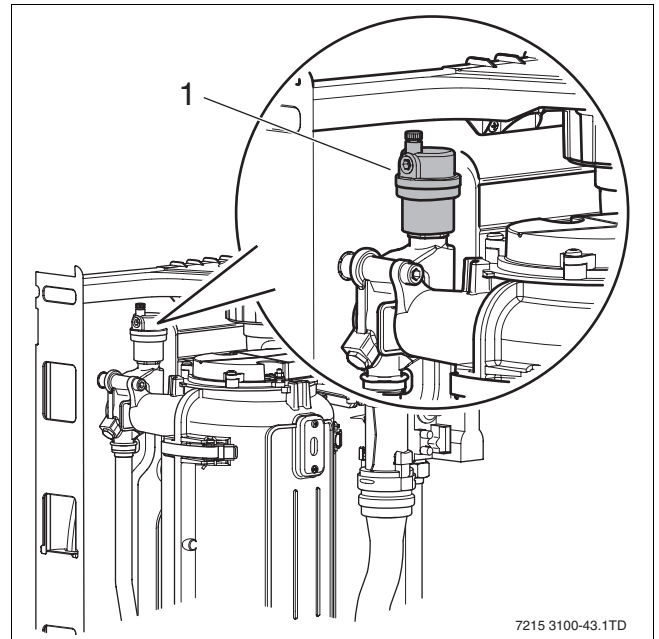

Fig. 43 Automatic air vent
- Loosen the automated air vent one turn (→ fig. 43).